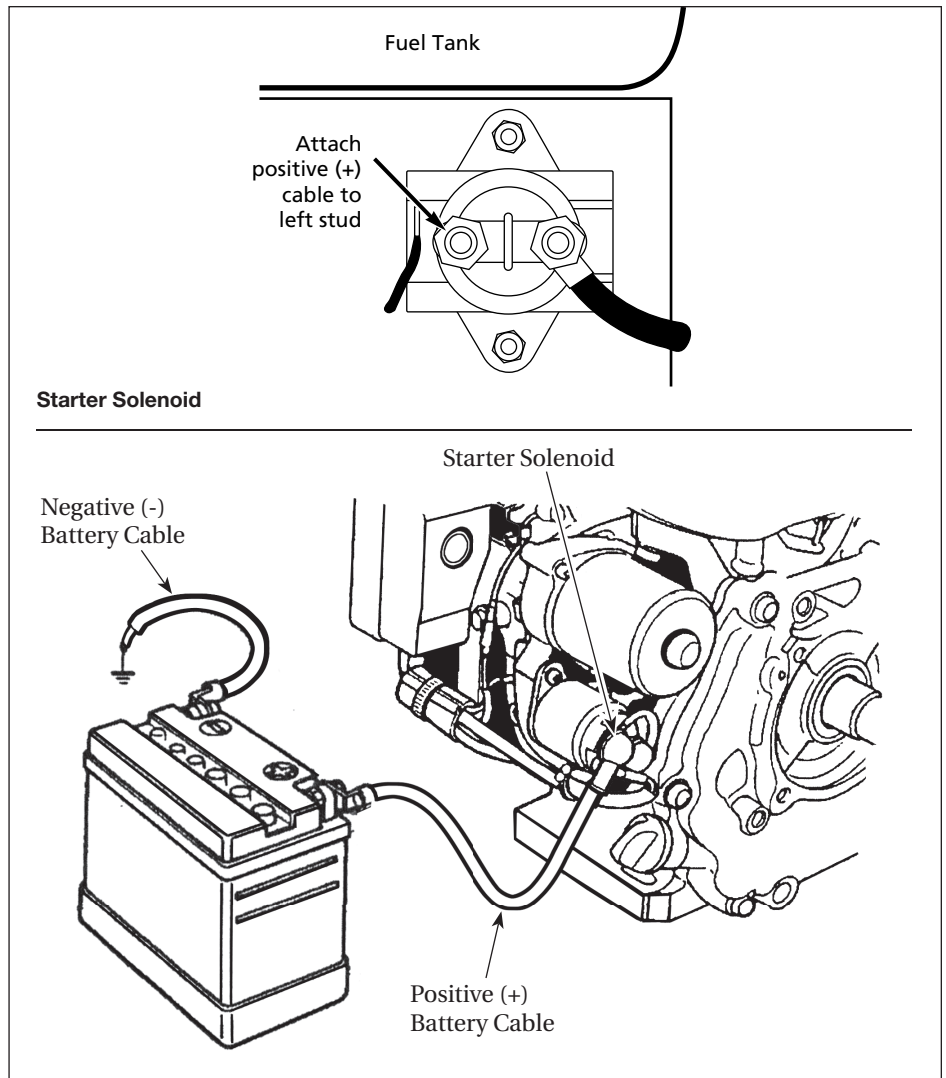

Figure 6
2. Remove the nut from the left terminal of the starter solenoid. Connect the positive (+) cable to this terminal and reinstall the nut (see Figure 6).